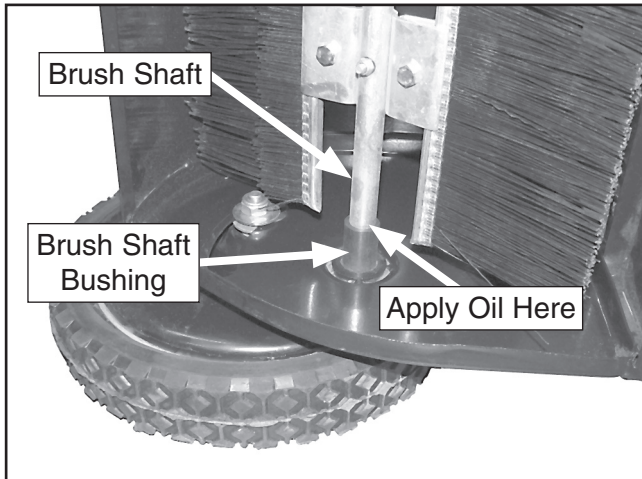

Figure 20 Brush shaft bushing lubrication.
1. Tilt the sweeper onto its side and apply a few drops of light oil to the brush shaft, as shown in **Figure 20**.